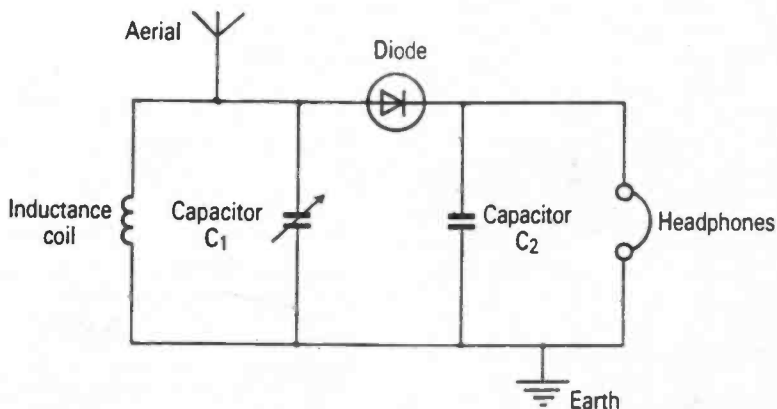

Fig. 20
19. The diagram of a simple Radio Receiver is shown in Figure 20.
- (iii) filters radio frequencies (RF) to earth?
- (c) What other device(s) would be needed in addition to the ones shown in Figure 20, in order to drive a high power loudspeaker?